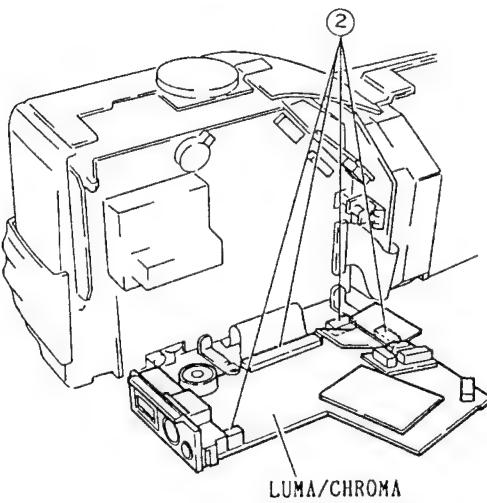

Fig. 2-21
- Disconnect three (3) connectors (CN010, CN012, CN013) and one (1) flat cable (CN009). (See Fig. 2-21)